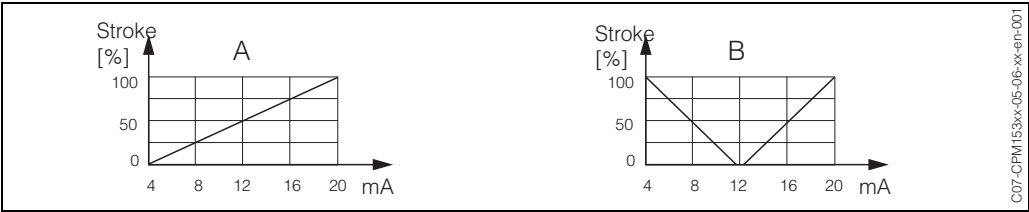

Fig. 20: A: Stroke diagram for a control valve
- With a *two-sided* process, the complete actuating variable range from -100% ... +100% is represented on the given current range. An actuating variable of 0% leads to a current of 10 mA (at 0 ... 20 mA) or 12 mA (at 4 ... 20 mA), (see fig. 20).